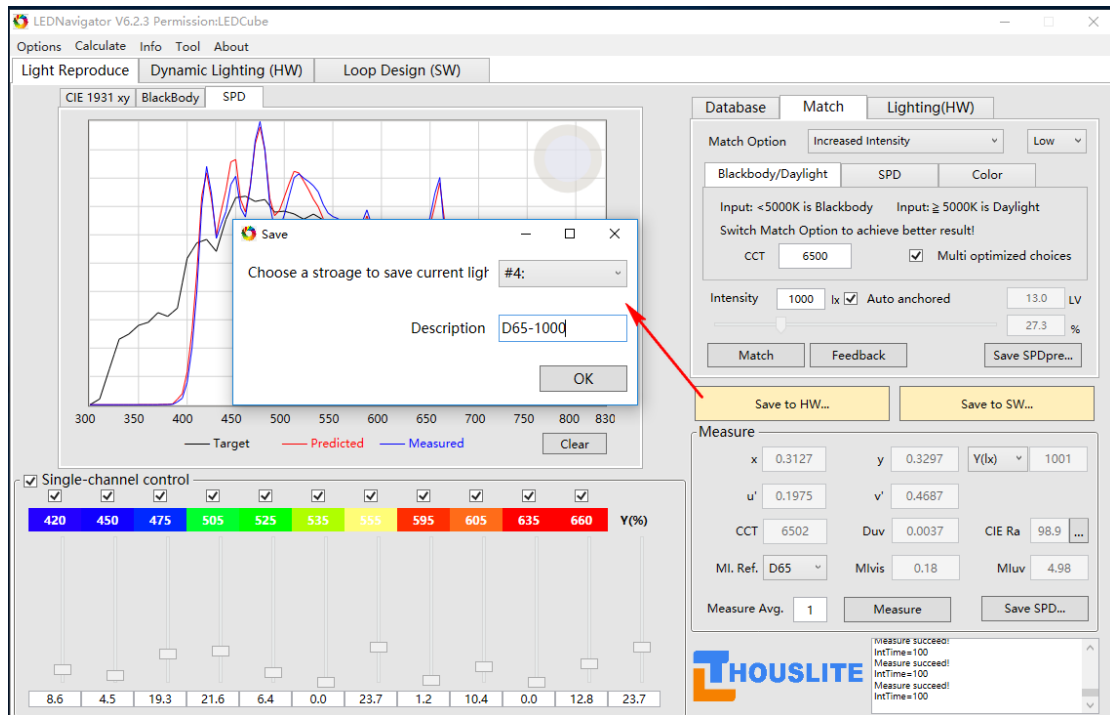

Fig. 5.5 Save the light source
- 9) Press *Save to HW...* or *Save to SW...* to save the light source to the software or LEDView hardware, as shown in Fig. 5.5.